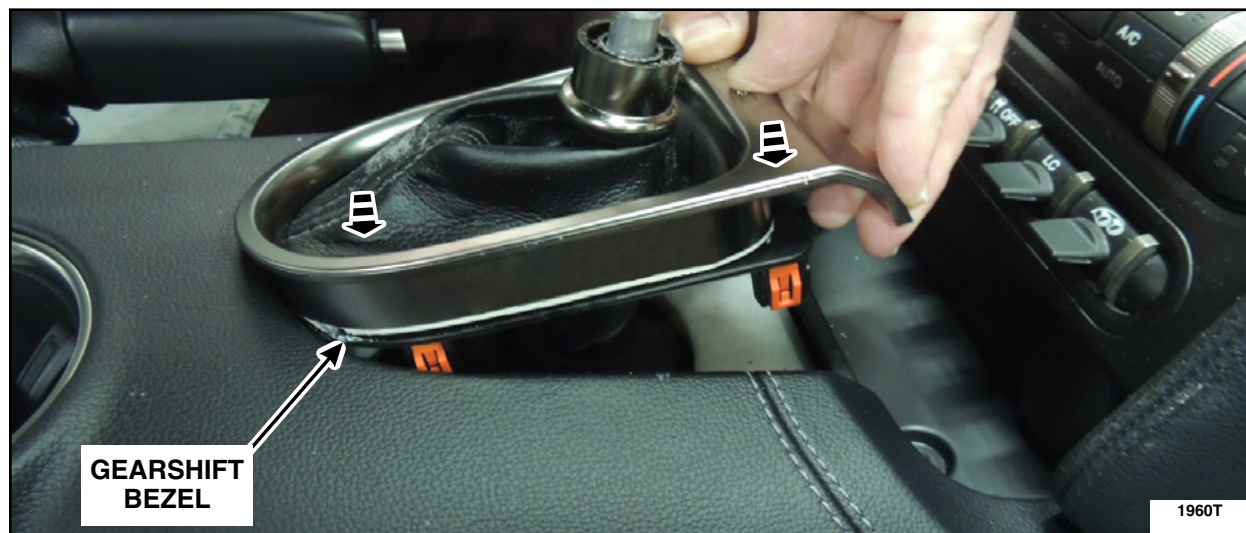

FIGURE 23
32. Install the gearshift bezel. See Figure 23.